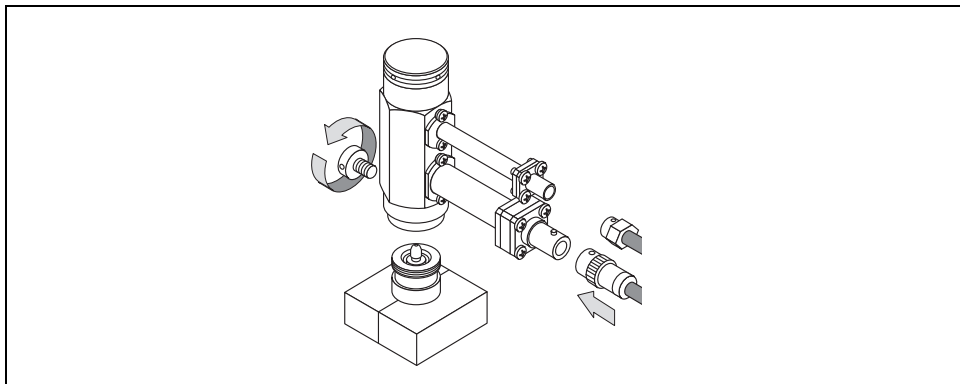

Figure 15-15. Clean/Replace the Jet (4)
8. Reconnect the signal and ignition cables to the detector. See Figure 15-15.